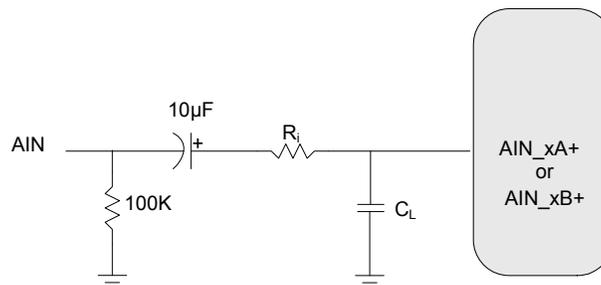

Figure 5-13. ADC Single-ended Input Test Circuit
Test Conditions (unless otherwise specified): $T_A = 0$ – $+70^\circ\text{C}$; $V_{DD} = 1.8\text{V} \pm 5\%$, $V_{DDA} (V_A) = 3.3\text{V} \pm 5\%$, 1kHz sine wave driven through the passive input filter ($R_i = 10$ k Ω) in Fig. 5-13 or Fig. 5-14; DSP running test application; Measurement Bandwidth is 10–20kHz.
Test Conditions (unless otherwise specified): TA = –40–85°C; VDD = 1.8V±5%, VDDA (VA) = 3.3V±5%; kHz sine wave driven through the passive input filter (R_i = 10 kΩ) in Fig. 5-13 or Fig. 5-14; DSP running test application; Measurement Bandwidth is 10 Hz–20 kHz.